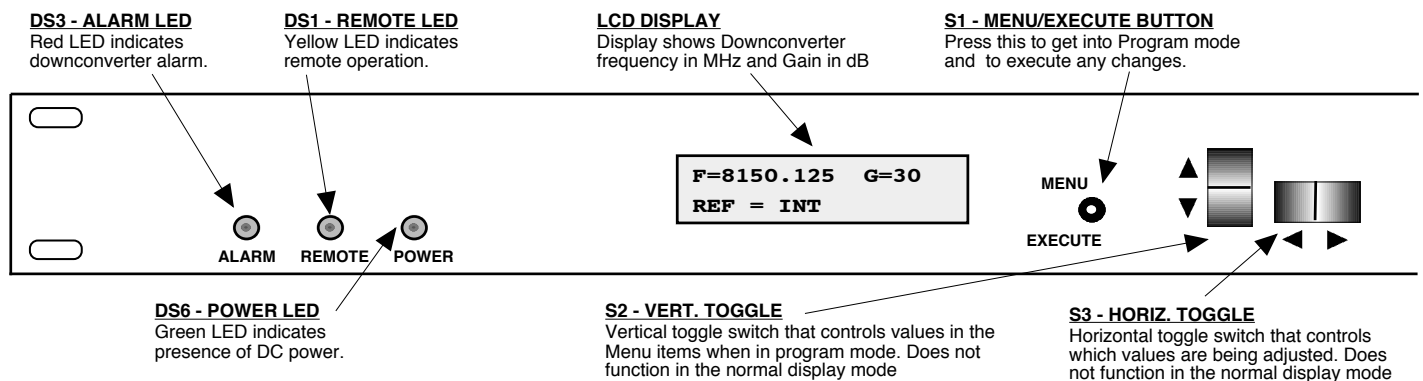

FIGURE 2.3 2016-8085 Front Panel Controls and Indicators
Figure 2.3 shows the front panel controls and indicators.
6. Be sure DS6 (green, DC Power) is on and DS3 (red, Alarm) is off (Figure 2.3).
Alarm indications appear on the LEDs (see figure 2.3).